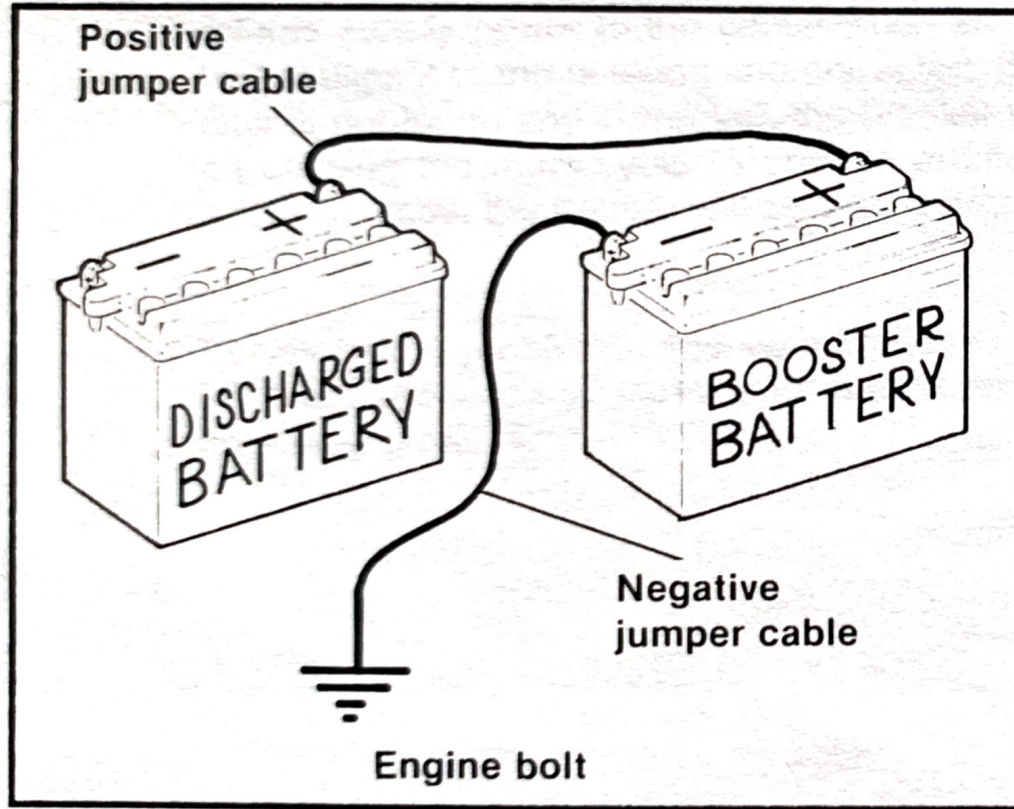

Figure 35. Jump Start Cable Connections
2. See Figure 35. Connect one end of a jumper cable to the DISCHARGED battery positive (+) terminal.